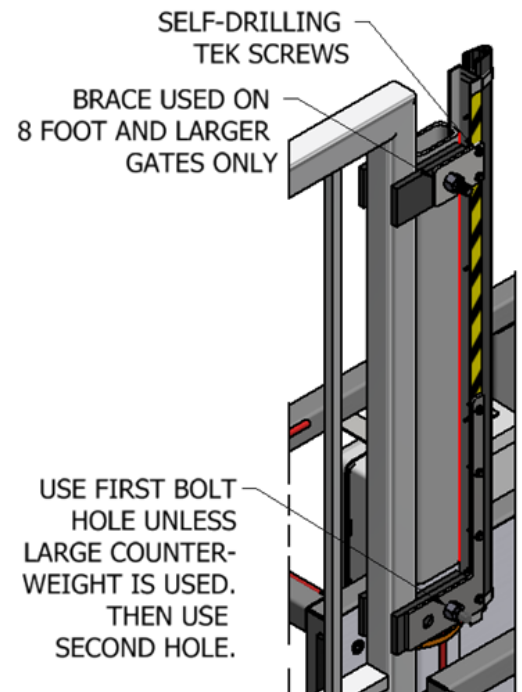

Figure 3
12. Install upper brace to Operator Arm as shown in Figure 3. Loosely tighten the 3/4" locknut.